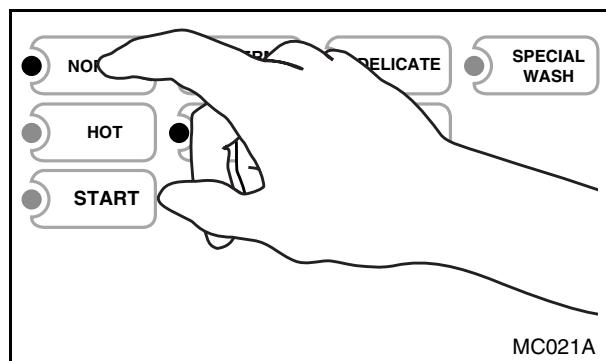

Figure 2-2
1. Press the desired cycle selection pad. See Figure 2-2. The LED next to the pad will light.